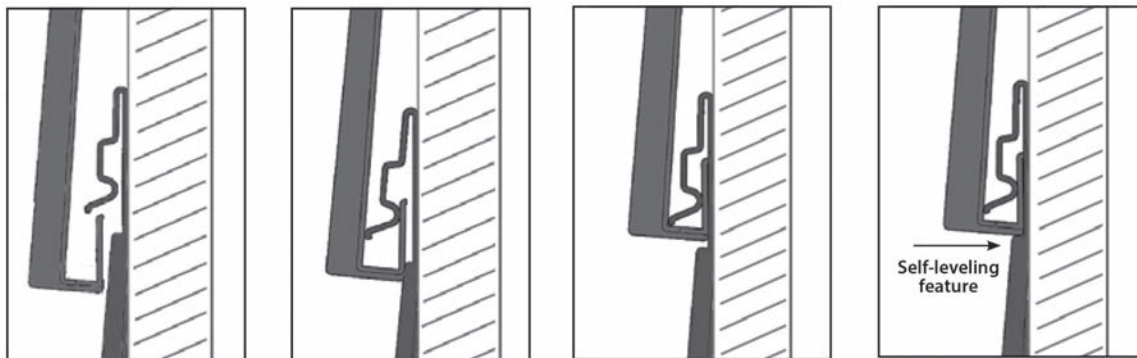

FIGURE 2
3. When installing a siding panel, push up from the bottom until the lock is fully engaged with the piece below it. The panels should not be under tension or compression when they are fastened. Allow the butt edge to rest on the top edge of the course below (**FIG 2**).